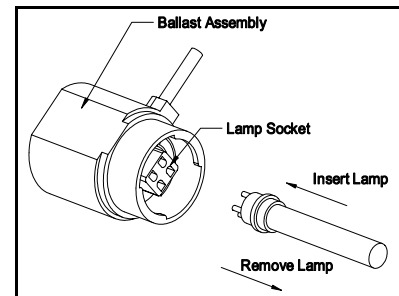

Figure 4
7. Install bulb into ballast. Do not handle the bulb with bare hands. Oils on the hands tend to shorten bulb intensity. (See Figure 4)
3. Remove the bulb from the bulb socket. (See Figure 4)